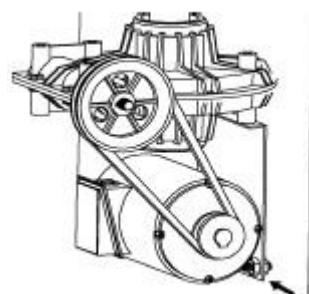

Fig. 11
- Tight the screws for the belt tension (fig 11).